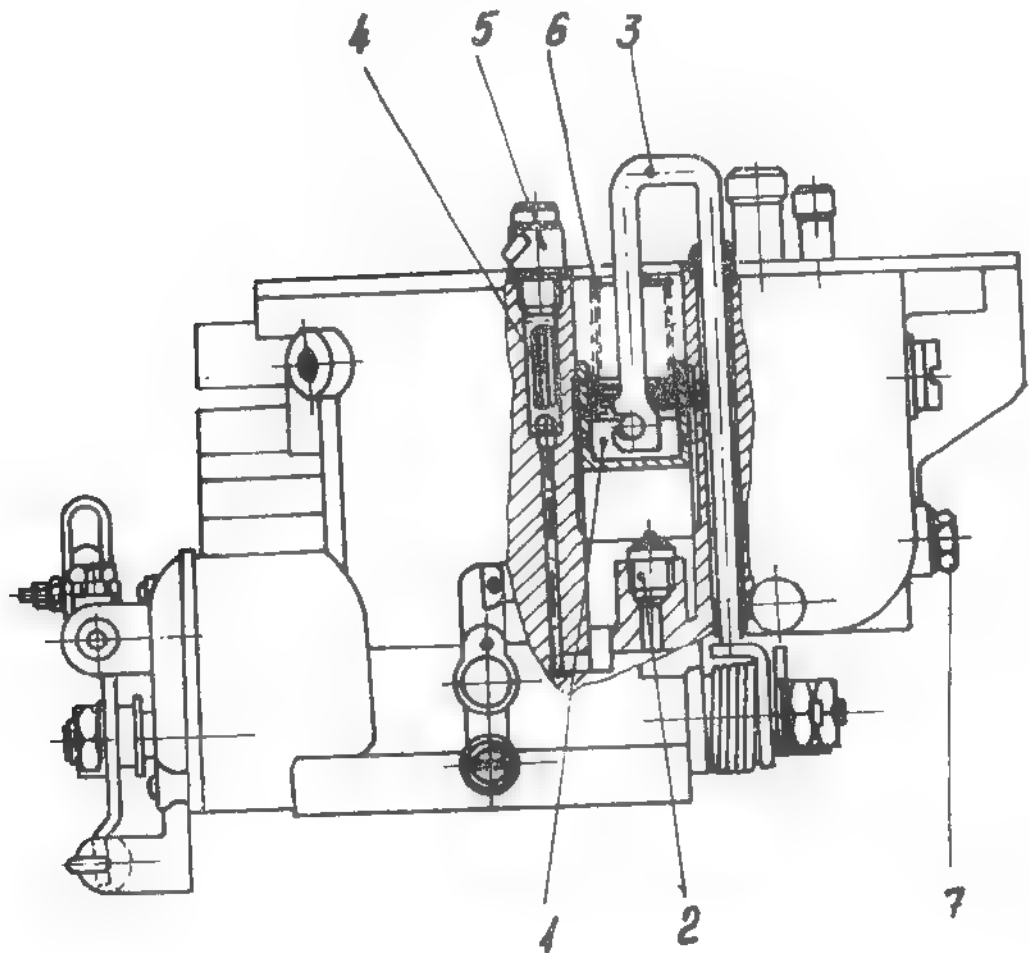

Fig. 4.7. INLET (CHARGE) VALVE
For high loads the fuel mixture is enriched by opening of the load valve (2) actuating the acceleration pump piston when the acceleration pedal is actuated at maximum stroke see fig. 4.7.